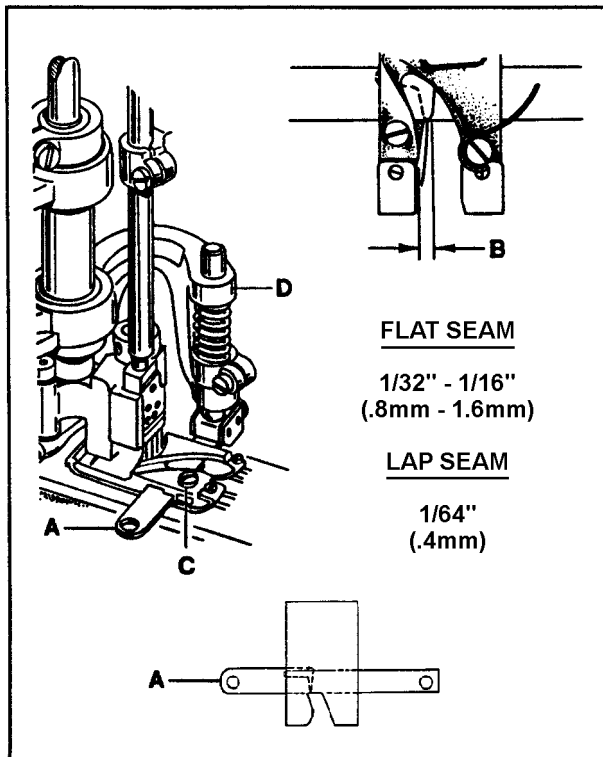

FIG. 29
To make the adjustments for a flat seam, position lower knife (A, Fig. 29) in the foot so it extends 1/32" to 1/16" (0.8mm to 1.6mm) past the right side of the left toe (B) (approximately between the second and third needles). Loosen screw (C) and move knife in or out as required. Tighten screw (C) securely.
To make the adjustments for a lap seam, position lower knife (A, Fig. 29) in the foot so it extends 1/64" (0.4mm) past the right side of the left toe (B) (approximately even with the first needle). Loosen screw (C) and move knife in or out as required. Tighten screw (C) securely.